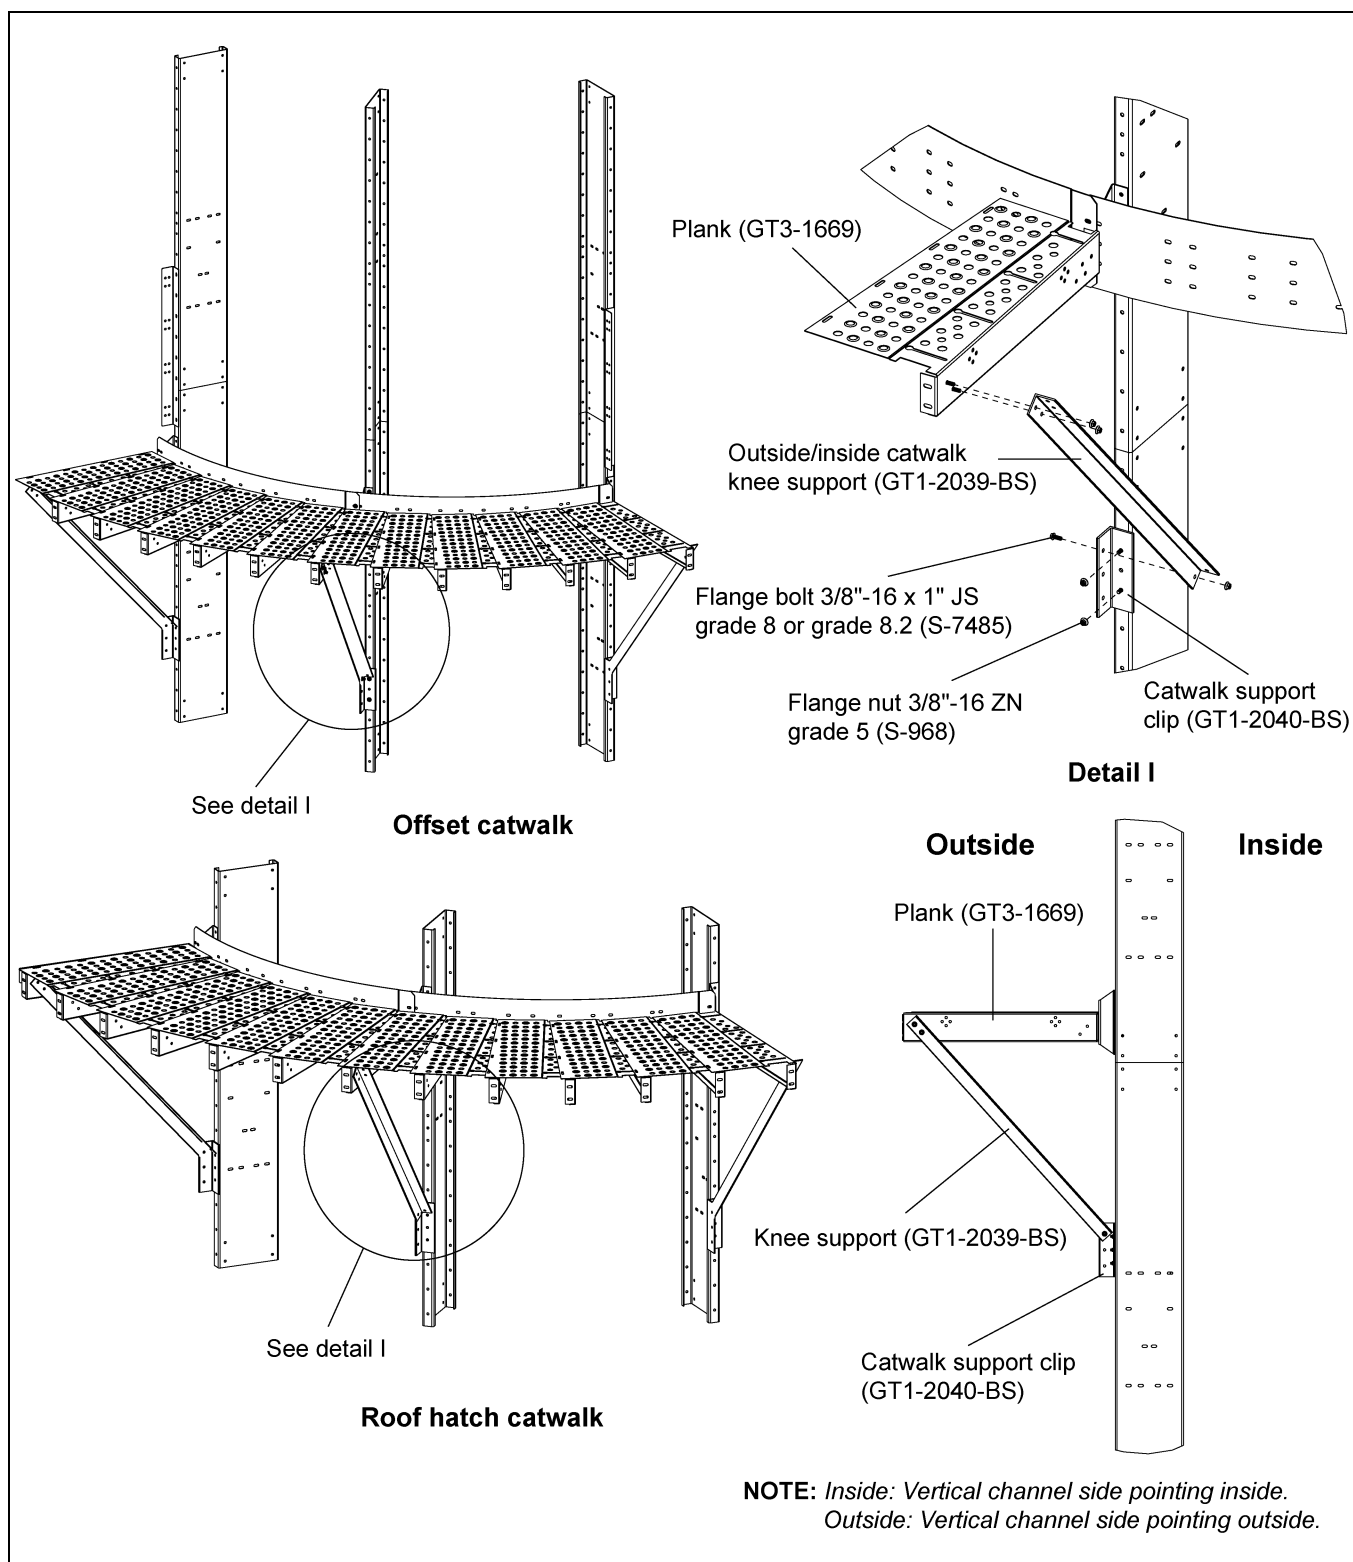

Figure 6S Knee Support (GT1-2039-BS) Installation for Offset and Roof Hatch Catwalks
1. Install the knee support (GT1-2039-BS) around the dryer between the catwalk support clips (GT1-2040-BS) and the planks (GT3-1669) using 3/8"-16 x 1" JS grade 8 or grade 8.2 bolts (S-7485) and 3/8"-16 ZN grade 5 nuts (S-968). (See Figure 6S.)